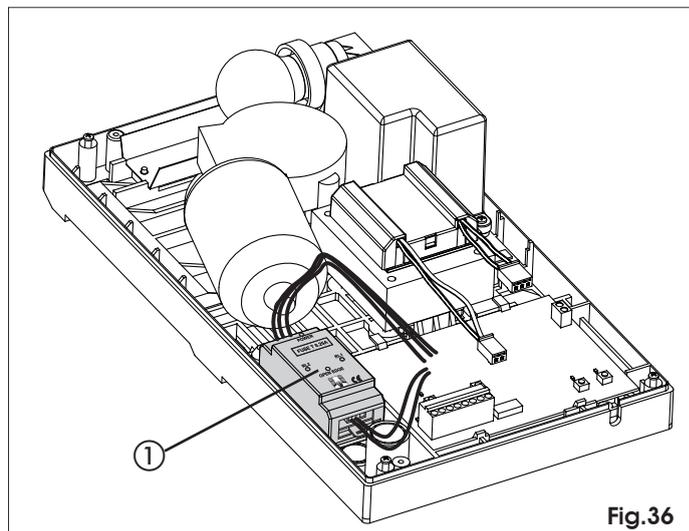

Fig.36
The use of the safety edge with conductive element, is facilitated because the control unit (Fig. 36 ref ①) can be housed on board the operator.
- House the control unit as shown in Fig. 36.